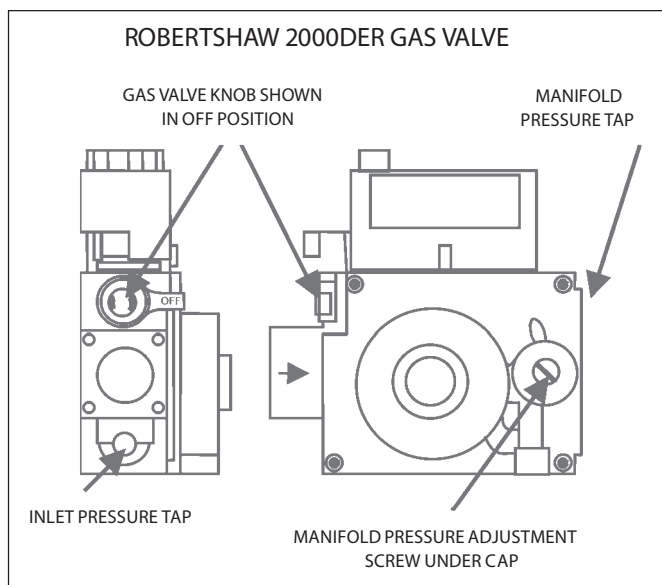

FIGURE 10
GAS VALVE OPERATION FOR ROBERTSHAW 2000 DER SERIES VALVE (FIGURE 10)
5. Depress knob on gas valve; knob will snap to OFF. (See Figure 10)
2. After line pressure has been checked and adjusted, check manifold pressure. Correct manifold pressure is shown on the unit rating plate. See figure 10 for gas pressure adjustment screw location. A natural gas to LP/propane gas changeover kit is required to convert unit. Refer to installation instructions provided with changeover kit for conversion procedure.